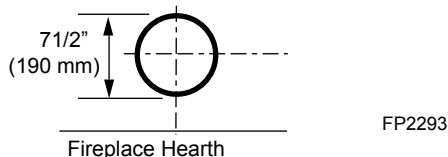

Figure 16 - Locate vent opening on wall
Locate vent opening on the wall. It may be necessary to first position the fireplace and measure to obtain hole location. Depending on whether the wall is combustible or noncombustible, cut opening to size. *Figure 16* (For combustible walls first frame in opening.)
Combustible Walls: Cut a 95/8"H x 95/8"W (244 x 244 mm) hole through the exterior wall and frame as shown. *Figure 16*
1. Establish vent hole through the wall. *Page 17, Figure 16*